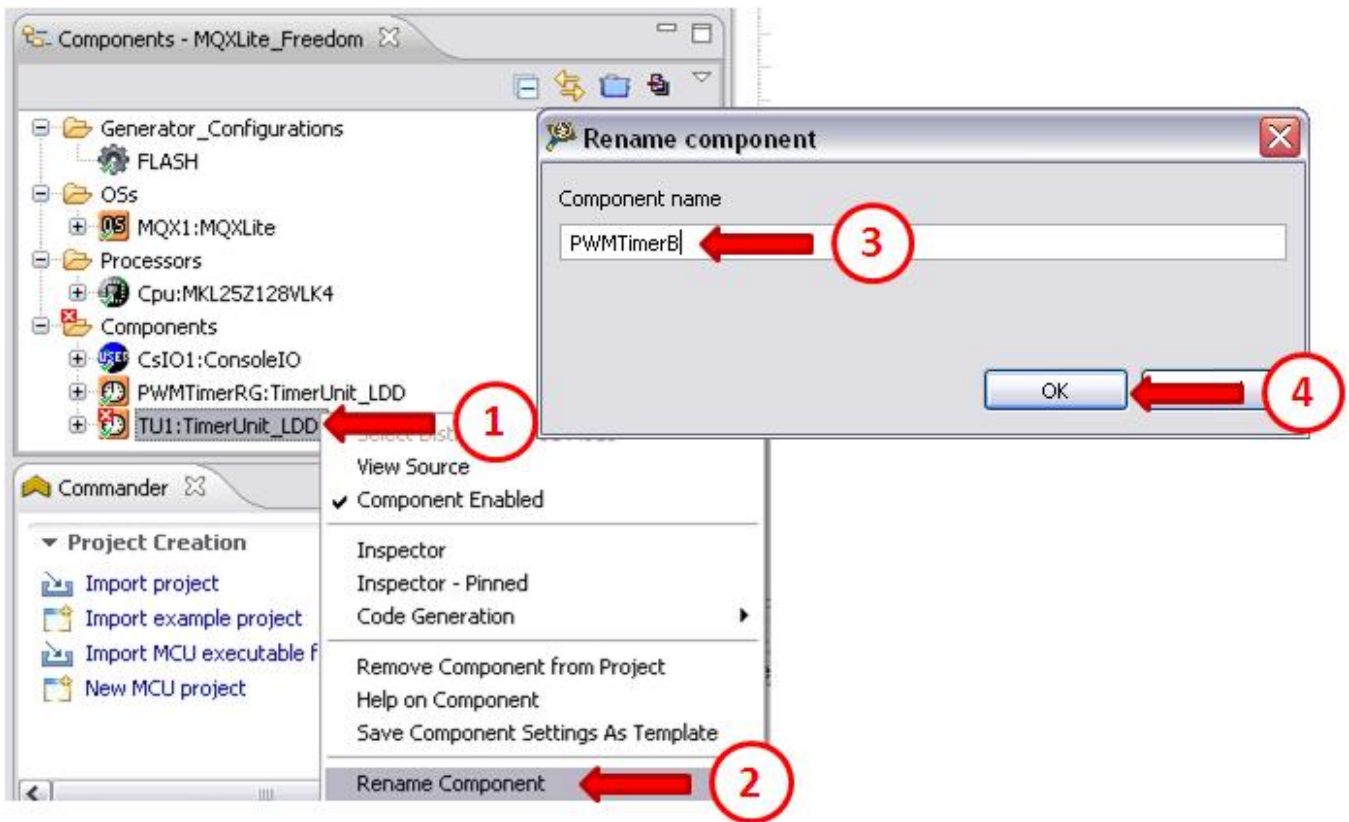

Figure 33. Modify component name
- It is necessary to change the name to standardize the source code. To modify the name of the component right click on it and then name it PWMTimerB. This name means that this PWM controls the Blue LED inside the RGB LED. See Figure 33.